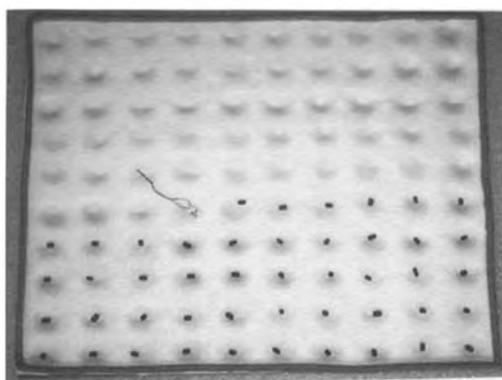

Figure 6. Completed bead counter.
5. Place a drop of hot melt glue onto the cardboard through each hole in the 1/4" Volara. Place the 1/8" Volara sheet on top and apply pressure. This is most successful with a tool such as the screw press, shown in Figure 6, which is designed to make a depression in each pre-cut hole.